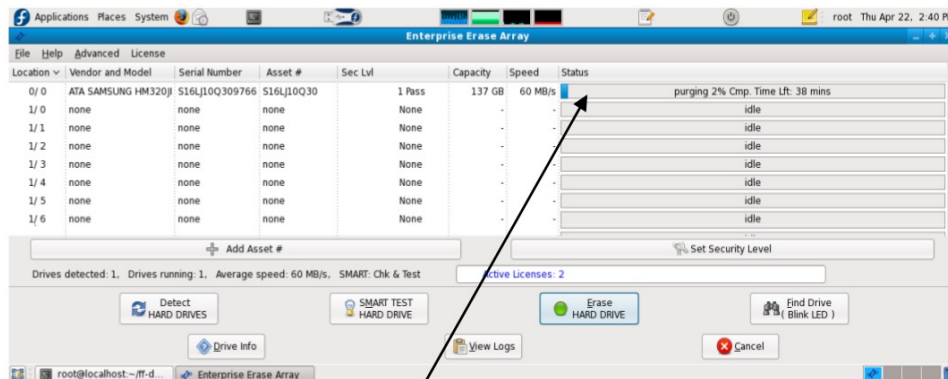

Figure 3.6 – User Interface Screen Shows Erasure Process
3.8 After the erasure process is started, the status of the process is displayed on the user interface screen. Figure 3.6 shows where the progress can be viewed.